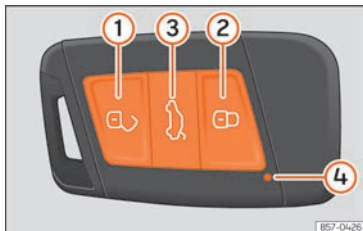

Fig. 46 Vehicle key
When a button is pressed briefly on the vehicle key, the control lamp ④ ››› Fig. 46 flashes once briefly, but if pressed for a long period of time, it will flash several times, for example, in the convenience opening.